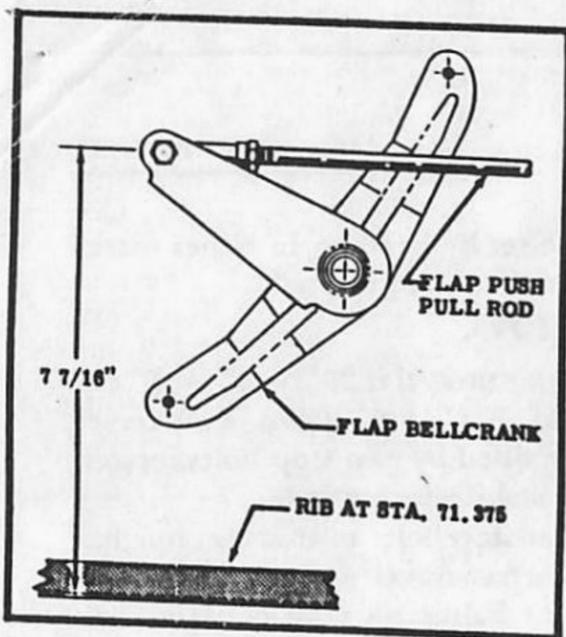

Figure 13. Flap Bellcrank Adjustment
Figures 13 to 19 incl. outline the control system including control travel limits, location of control stops, and the location of turnbuckles. The use of the single .040 brass wire for safetying of turnbuckles is satisfactory and CAA approved. Rigging method for the various systems is outlined below:
- Adjust the flap push-pull rod until the flap bellcrank is in the position shown in figure 13.